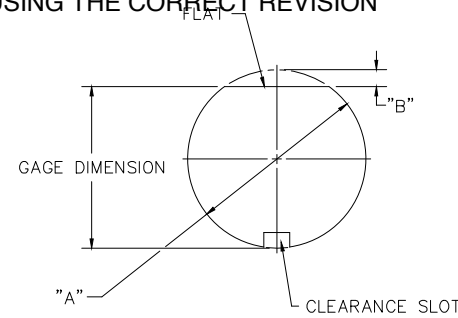

FIGURE 2
- MEASURE THE DIAMETER "A" (FIGURE 2) USING A MICROMETER.
- ROTATE THE COLLET TO IT'S ORIGINAL POSITION (FIGURE 3A). MEASURE DOWN TO THE FLAT TO DETERMINE DIMENSION "B" (FIGURE 2).